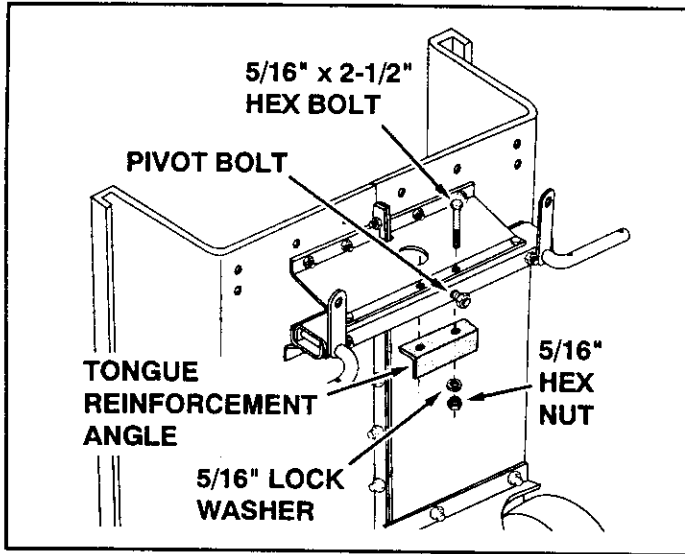

FIGURE 9
- Assemble the tongue reinforcement angle to the back side of the front axle supports as shown in figure 9. Use two 5/16" x 2-1/2" hex bolts, 5/16" lock washers and 5/16" hex nuts. **Do not tighten.**